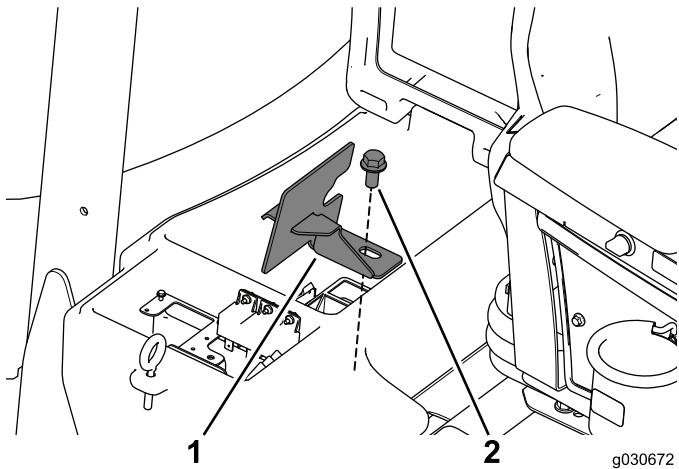

Figure 4
5. Remove and retain the bolt and the battery-compartment clamp (Figure 4).